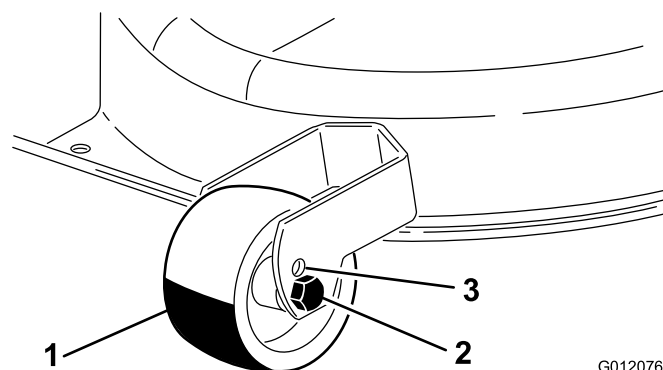

Figure 10
- If you use the height-of-cut setting 1 or 2, move the gauge wheels to the upper (highest) hole in the wheel brackets (Figure 10).
- If you use the height-of-cut setting 3 through 7, install the gauge wheels in the bottom (lowest) hole in the wheel bracket (Figure 10).